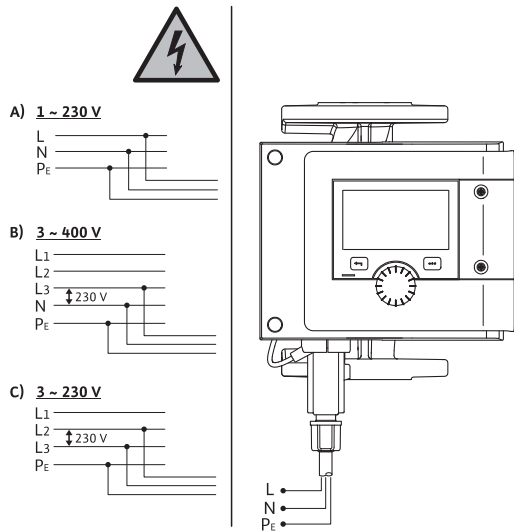

Fig. 2 Power supply option
- Connect to 230 V low-voltage networks. When connecting to IT networks (Isolé Terre electrical system), always make sure that the voltage between the live wires (L1-L2, L2-L3, L3-L1 Fig. 2) does not exceed 230 V.
The pump can be connected to power supplies with the following voltage ratings refer to Fig. 2, on page 4: